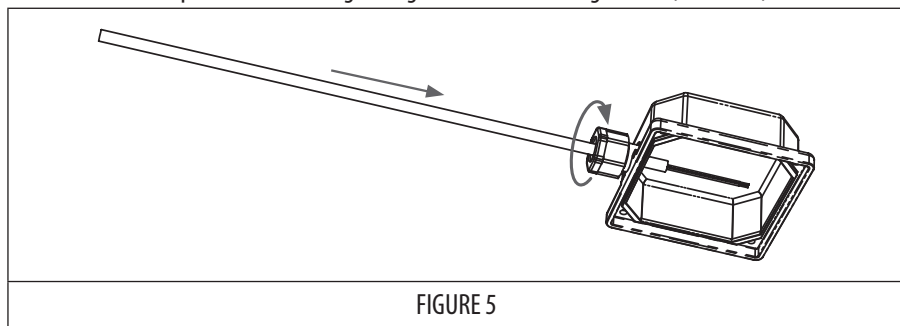

FIGURE 5
3. Run the power cable through the gland seal nut and tighten it. (FIGURE 5)